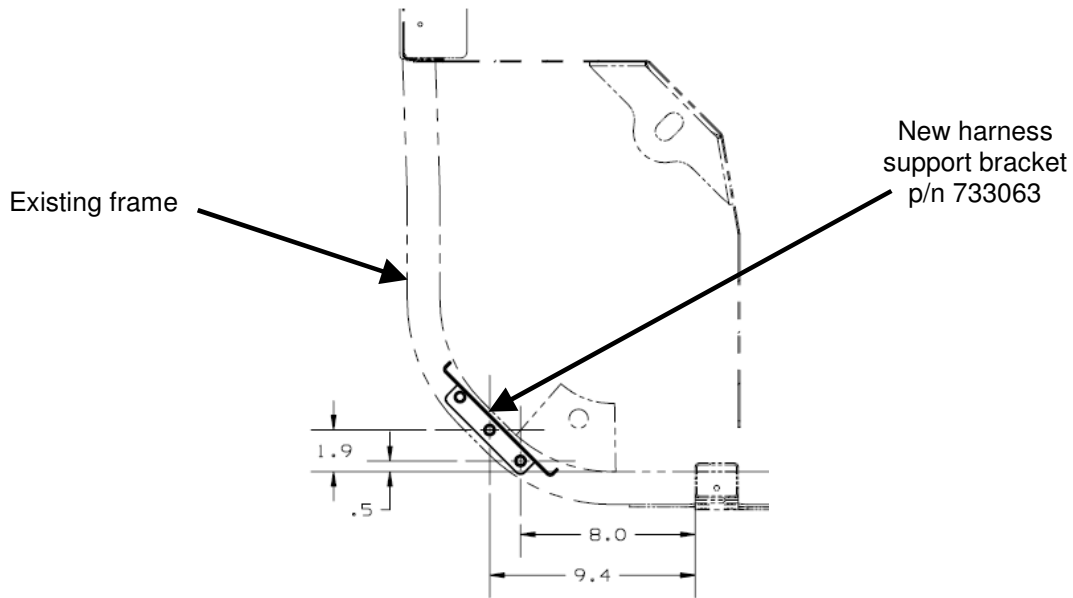

Figure 2: Harness Support Bracket Hole Location
5. Position new harness support bracket p/n 733063 at the location and orientation shown in Figures 2 and 3. Using the bracket mounting holes as a template mark and drill 0.166 dia tapping hole (x3) through the existing frame.